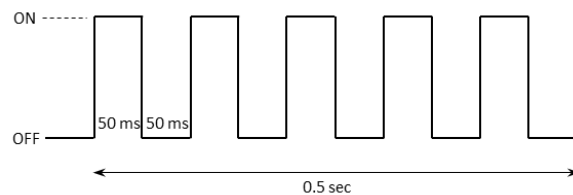

Figure 1-1: The **GREEN** or **RED** LED Pattern After the POST
- a. If the POST passes, **GREEN** is toggled ON and OFF every 50 ms for 0.5 sec, as shown in Figure 1-1.
- b. If the POST fails, **RED** is toggled ON and OFF every 50 ms for 0.5 sec, as shown in Figure 1-1.